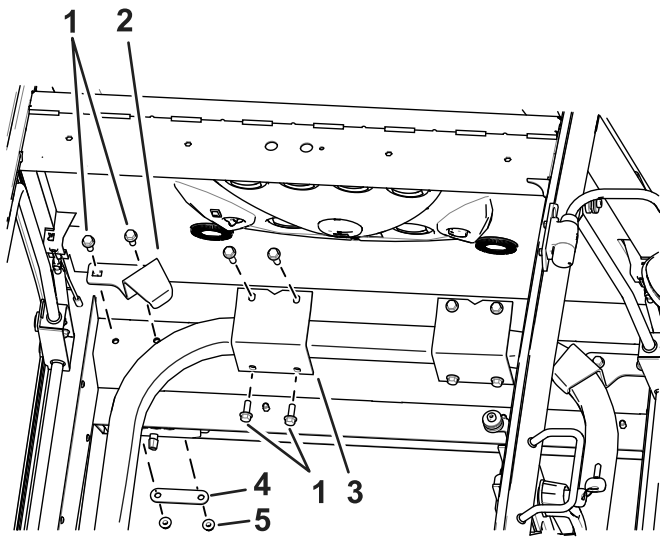

Figure 15
14. Loosely install the ROPS mounts to secure the cab to the roll bar on the machine (Figure 15).
18. Torque all nuts and bolts attaching the cab to the roll bar to 127 to 157 N·m (94 to 116 ft-lb). Refer to Figure 15